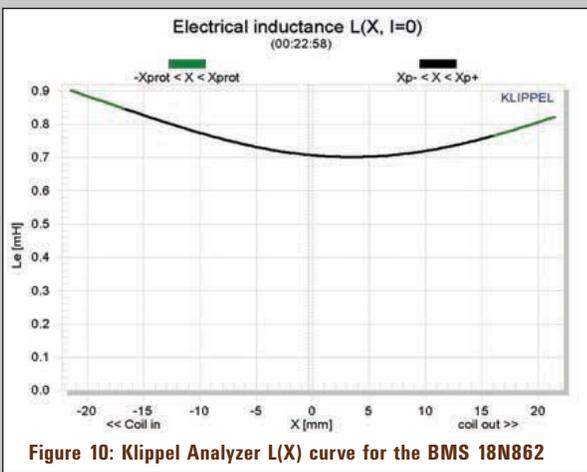

Figure 10: Klippel Analyzer L(X) curve for the BMS 18N862
Figure 10 gives the inductance curve L(X) for the BMS pro subwoofer. Inductance will typically increase in the rear direction from the zero rest position as the voice coil covers more pole area unless the driver incorporates a shorting ring, and the BMS 18" incorporates a triple aluminum shorting ring format. This is readily apparent in the L(X) curve. As you can see, the inductance variation is extremely small, only 0.07 to 0.17 mH from rest to Xmax in either direction. Minimal inductance variation is critical to a low distortion and an accurate sounding driver.